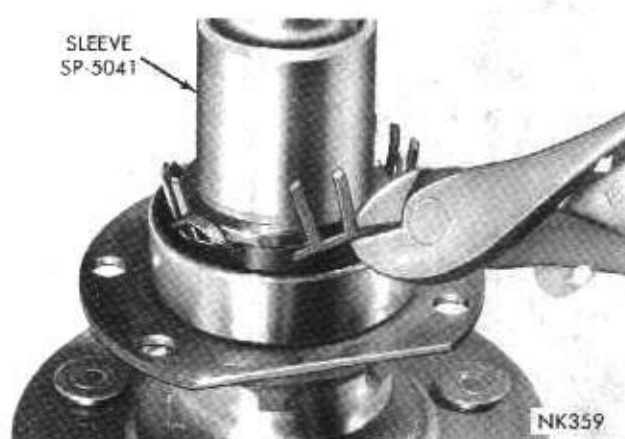

Fig. 10—Cutting Out Roller Bearing Retainer
(4) Pull bearing roller retainer down as far as possible and cut with a pair of side cutters and remove (Fig. 10).
(5) Remove roller bearing cup and protective sleeve SP-5041 from axle shaft.